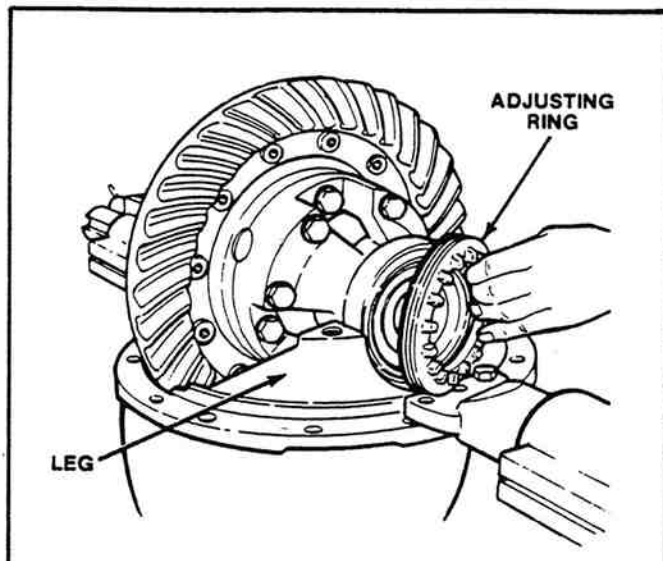

Figure 2-75. Installing Bearing Adjusting Rings.
6. Install both of the bearing adjusting rings into position between the carrier legs. Turn each adjusting ring hand tight against the bearing cup (Figure 2-75).